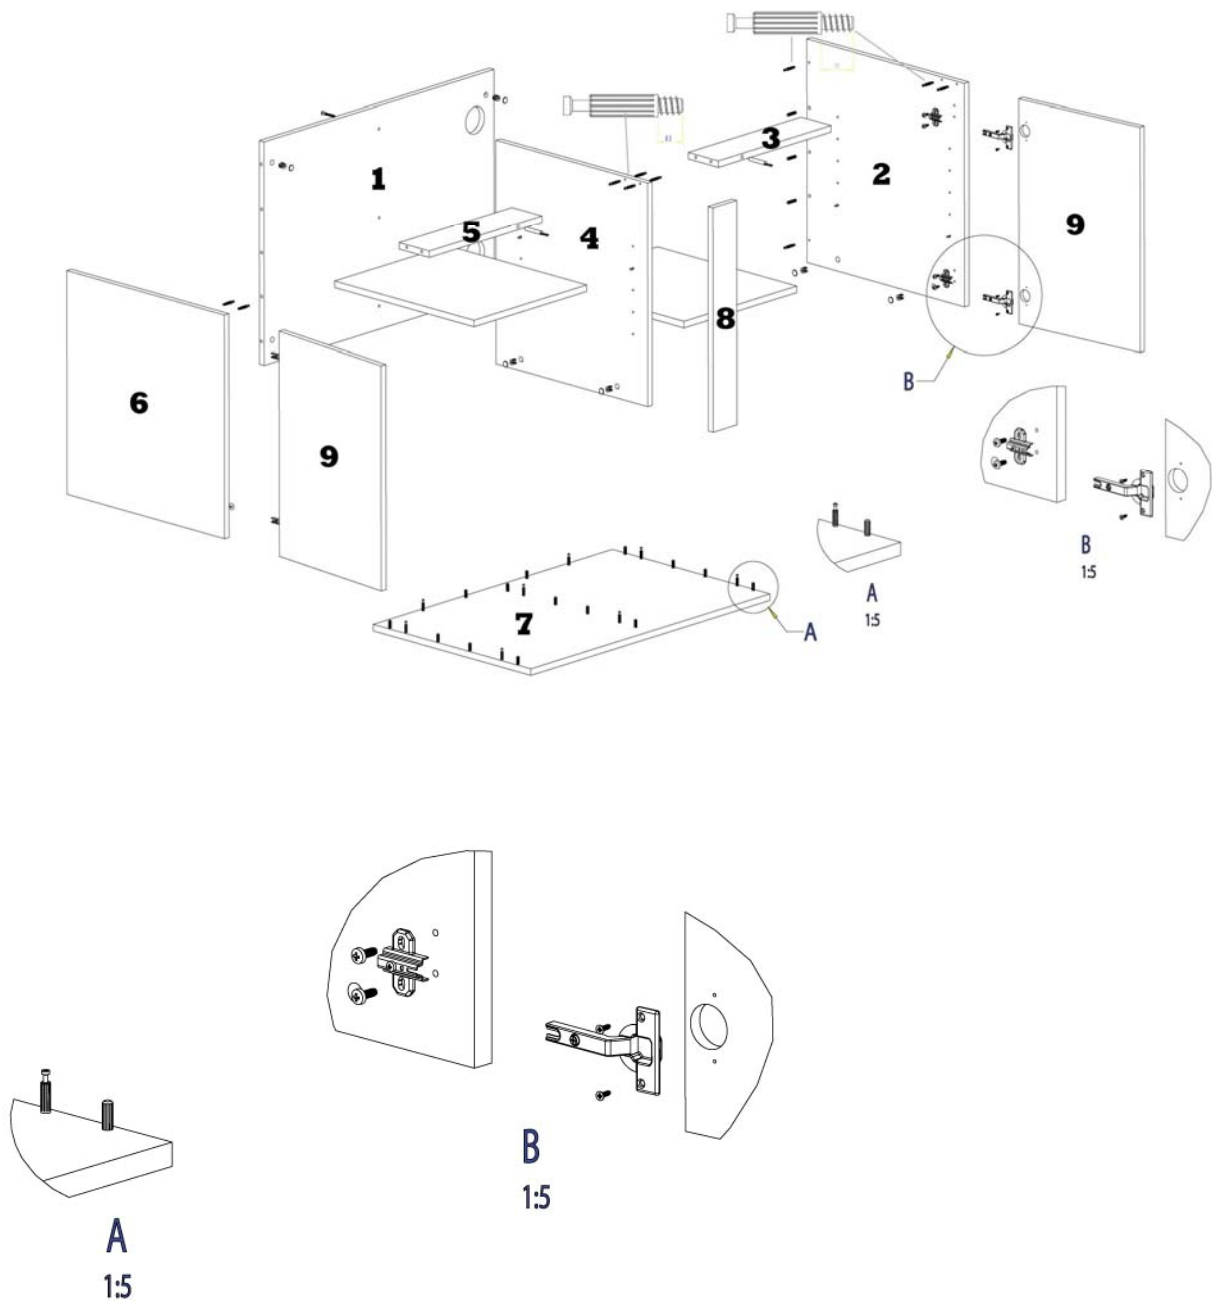

Fig. 1: Cabinet
2. Cabinet's assembly (refer to Fig. 1)